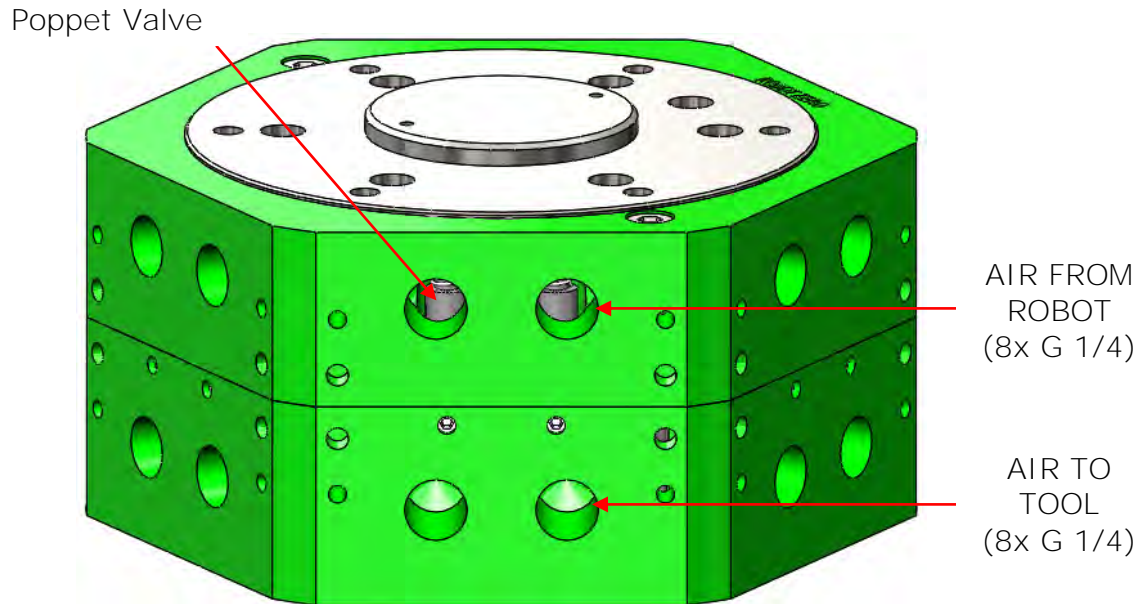

Figure 5.6-1. E80 User Pneumatic Ports
The E80 Tool Changer has eight (8) available user pneumatic ports to supply air through the tool changer to the specific tool being used. The robot side ports can be checked if a poppet valve is installed. For the ports to be operational, the tool changer must be coupled and be fitted with a valve fitting assembly (valve fitting (1506-C99N) and 2 o-rings (83908-P1134) per port). Air can be supplied via directly ported air fittings supplied by the customer (Figure 5.6-1).